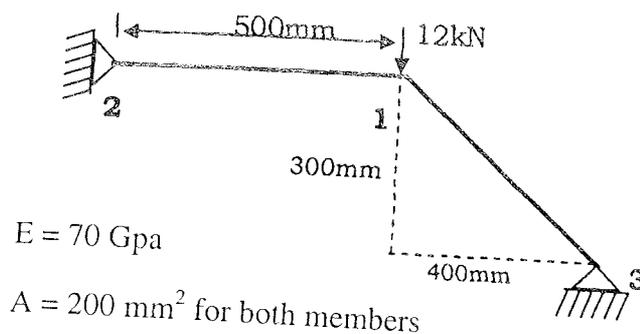

Figure 3
- (b) Derive element mass matrix for CST element. (16)
- (a) Determine the displacement of nodel and the stress in element 1-3 for the truss shown in figure 3. (16)